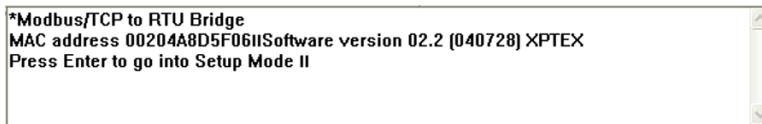

Figure 6-86: TCP/IP Card terminal prompt
4. Immediately after the RESET, press and hold the “x” key until the TCP/IP Card displays the message shown in Figure 6-86.